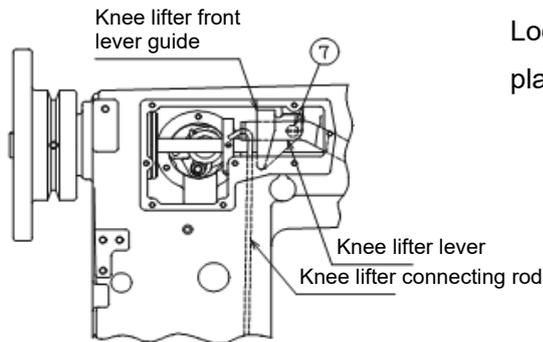

Fig. 5
Loosen the knee lifter front lever guide setscrew ⑦ (one place) and remove the knee lifter front lever guide. (Fig. 5)
Remove the knee lifter spring hooked on the knee lifter lever and loosen the knee lifter lever hinge screw ⑧ (one place). After this, remove the knee lifter connecting rod fitted into the end hole of the knee lifter lever from the knee lifter lever, and remove the knee lifter lever and the knee lifter connecting rod from inside the arm. (Figs. 5 and 6)